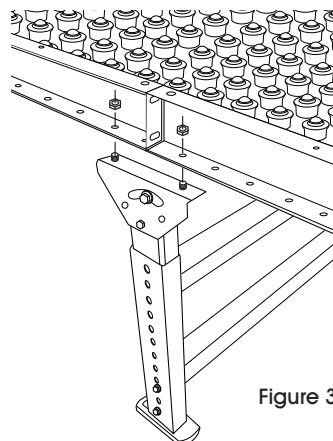

Figure 3
**Bolting a single H-Stand to two table frames:** Position the H-Stand halfway between the end of two table frames, lining up one hole on each table with the H-Stand. Fasten bolts through tables and H-Stand. (See Figure 3)